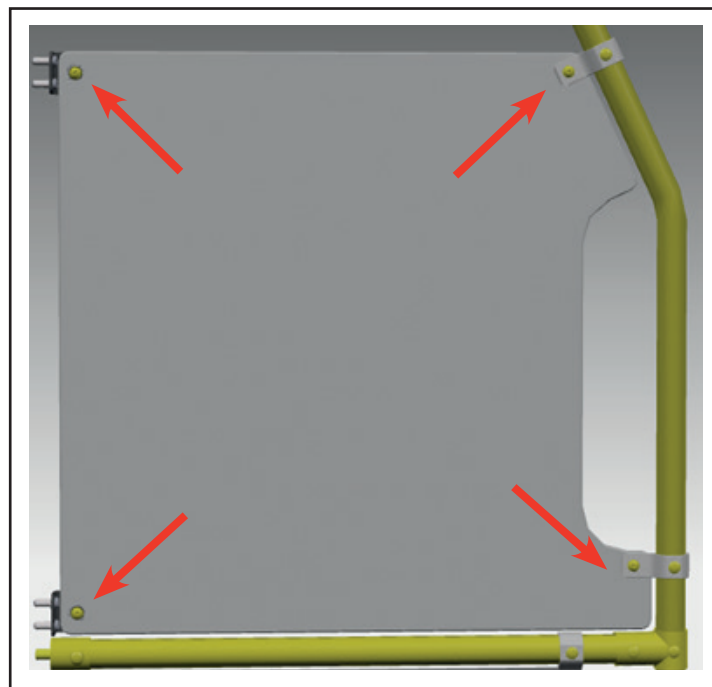

Figure 3 - Removal of Old grommet on the Lexan Panel
- 1.6. Remove the old grommets in the 4 corners of each Lexan panel (see figure 3).